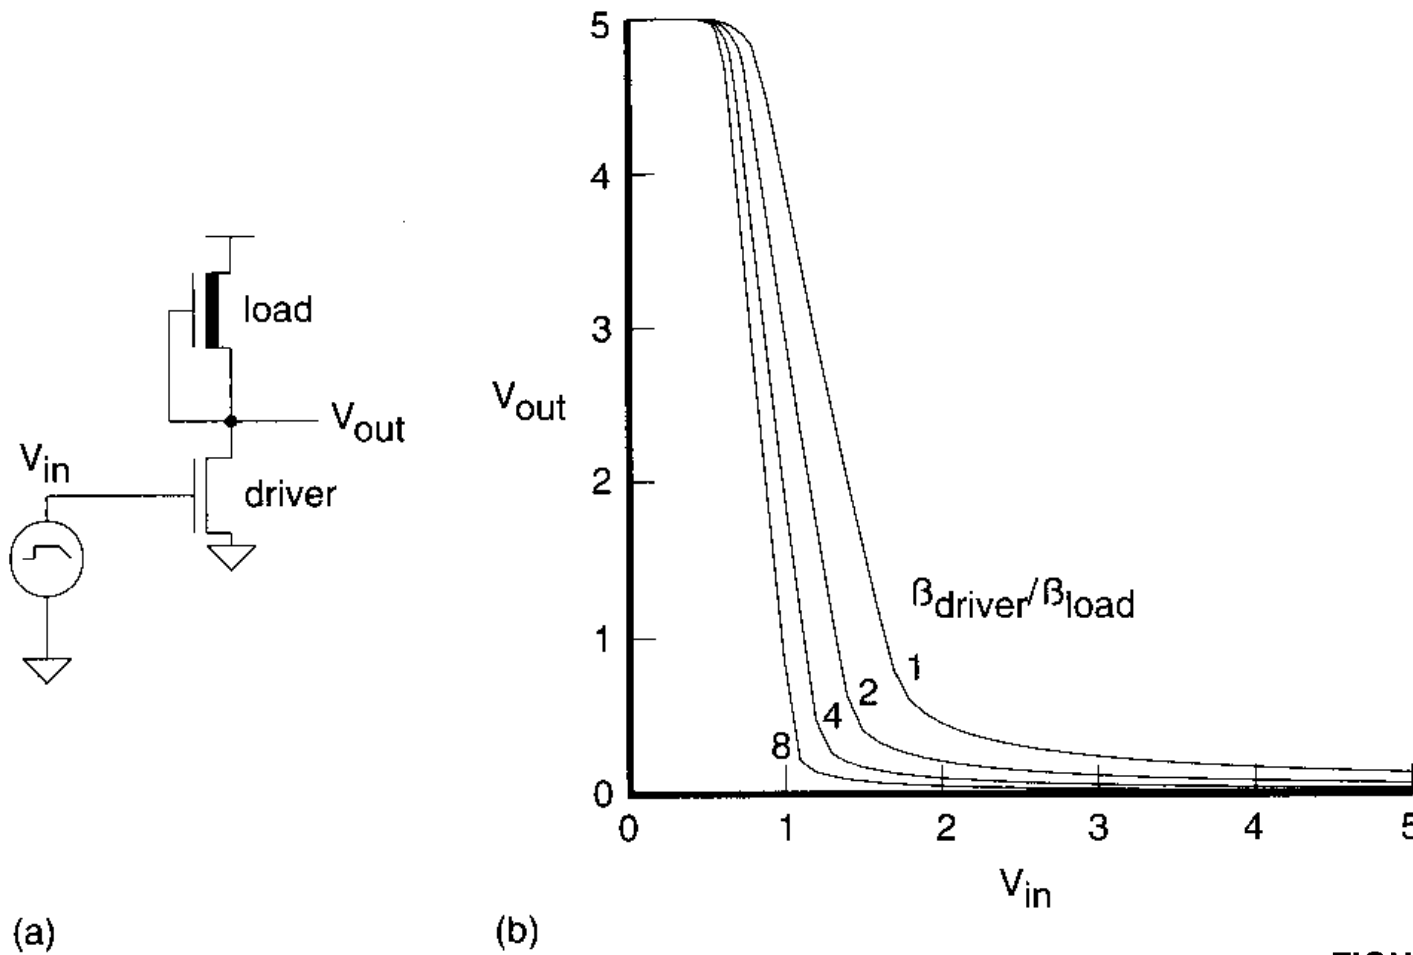

FIGURE 2.25 Depletion load inverter
- Figure 2.25 shows an nMOS depletion load inverter. The output of this inverter can rise to a full V_{DD} level, because the depletion mode transistor is always “ON”.